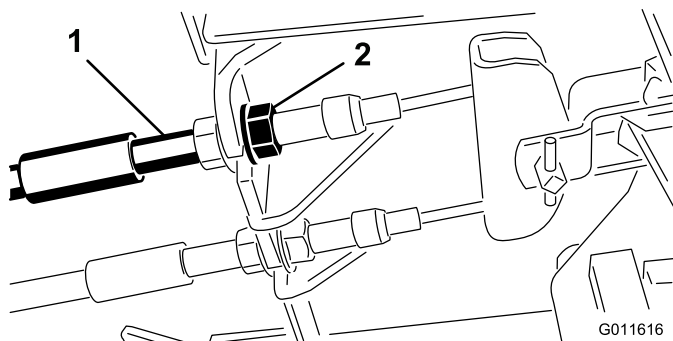

Figure 43
1. To reduce free travel of the brake pedals, tighten the brakes by loosening the front nut on the threaded end of the brake cable (Figure 43).